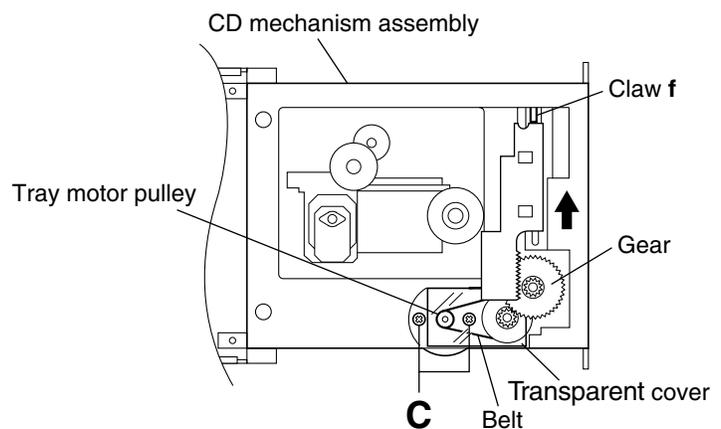

Fig.7
5. While pushing the claw **f** on the CD mechanism assembly downwards, slide the elevator fully in the direction of the arrow. (See Fig.7.)
7. Remove the belt from the tray motor pulley. (See Fig.7.)
8. Remove the two screws **C** retaining the tray motor and remove it from the bottom side of the CD mechanism assembly. (See Fig.7.)